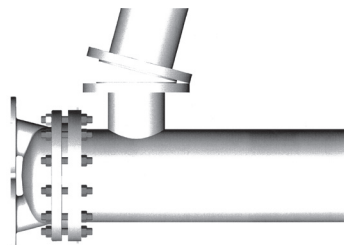

Fig. 4
4.3.4 Set exchangers level and square so that pipe connections may be made without forcing (Fig. 4).